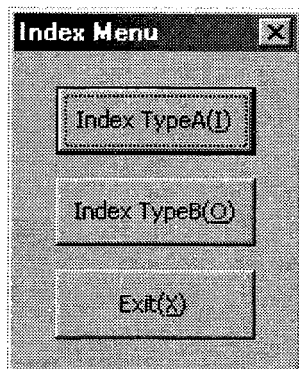

Figure 7.42 “Index Menu” dialog box
Click “*Index Comp (N)*” under “MainMenu” to display the “Index Menu” dialog box (Figure 7.42).